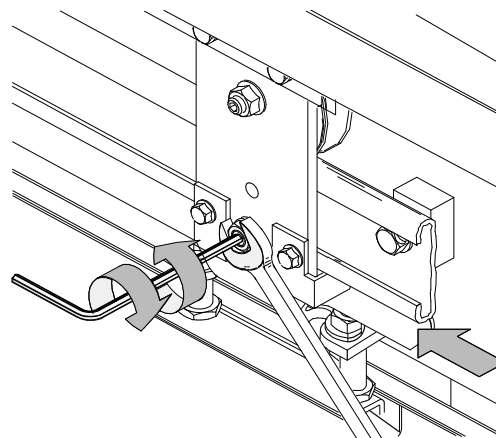

Figure 32 - Upthrust Roller Adjustment - Standard
1. Loosen the locknut on the allen head bolt located in the hanger. See Figure 32.